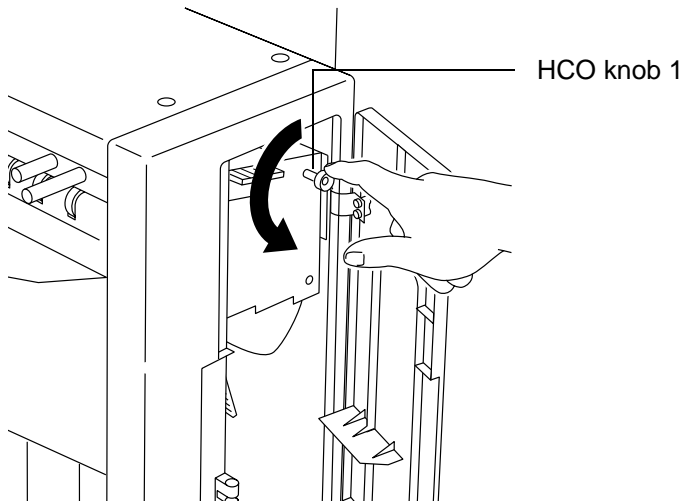

Figure 28 Rotating HCO knob 1
Step 2 Open the HCO door and locate HCO knob 1. See Figure 28.
Step 6 Rotate knob 1 to move any paper into view. See Figure 28.